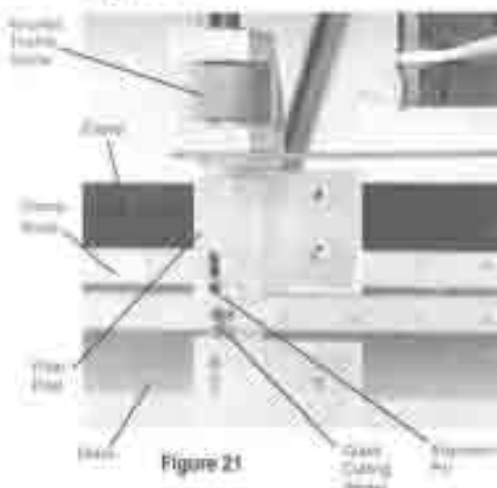

Figure 21
4. Start with the **Handle** in the 9 o'clock position. Turn the **Knurled Thumb Knob** to lower the **Pillar Post** until the wheel touches the glass. Then, turn the **Thumb Knob** a bit more to be sure that the wheel is being pushed down by its spring. You can judge this by watching the alignment pin move up in its slot ( $1/16"$  [2mm] or more). See Figure 21.